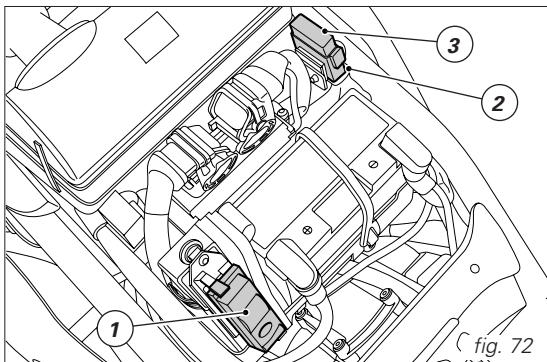

fig. 72
The main fuse box is located on the left side of the battery (fig. 72).
The 40A fuse (2) placed on the RH side of the battery (fig. 72) protects the electronic regulator.